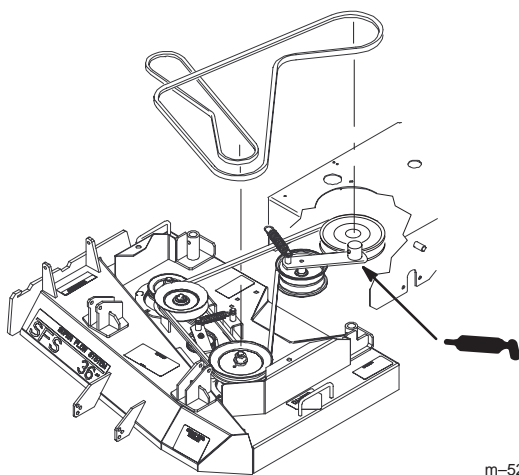

Figure 33
2. Grease the fitting on the PTO belt idler arm pivot (Fig. 33).